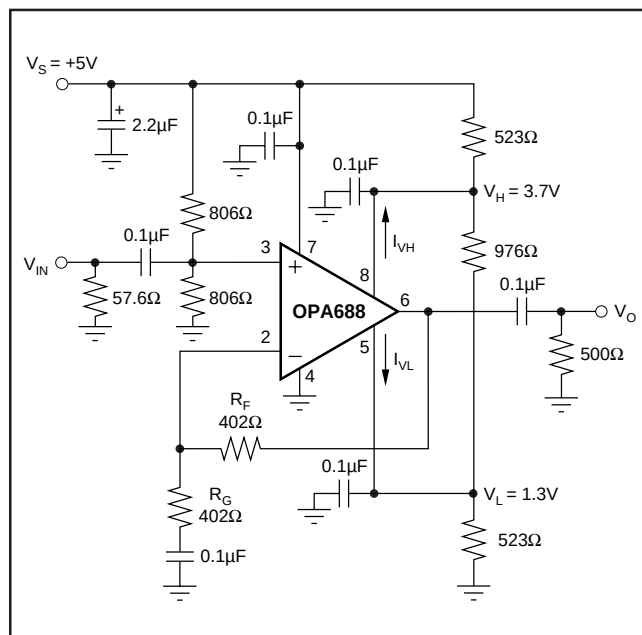

FIGURE 2. AC-Coupled, Single Supply Amplifier.
NOTES: (1) Junction Temperature = Ambient Temperature for low temperature limit and 25°C guaranteed specifications. Junction Temperature = Ambient Temperature + 23°C at high temperature limit guaranteed specifications. (2) TEST LEVELS: (A) 100% tested at 25°C. Over temperature limits by characterization and simulation. (B) Limits set by characterization and simulation. (C) Typical value for information only. (3) Current is considered positive out of node. (4) CMIR tested as < 3dB degradation from minimum CMRR at specified limits. (5) I_{VH} (V_H bias current) is negative, and I_{VL} (V_L bias current) is positive, under these conditions. See Note 3, Figures 2, and Figure 8. (6) Limiter feedthrough is the ratio of the output magnitude to the sinewave added to V_H (or V_L) when $V_{IN} = 0$. (7) V_H slew rate conditions are: $V_{IN} = V_{CM} + 0.4V$, $G = +2$, $V_L = V_{CM} - 1.2V$, V_H = step between $V_{CM} + 1.2V$ and V_{CM} . V_L slew rate conditions are similar. (8) Linearity Guardband is defined for an output sinusoid ($f = 5MHz$, $V_O = V_{CM} \pm 1V_{pp}$) centered between the limiter levels (V_H and V_L). It is the difference between the limiter level and the peak output voltage where SFDR decreases by 3dB (see Figure 9).
$G = +2$, $R_F = 402\Omega$, $R_L = 500\Omega$ tied to $V_{CM} = 2.5V$, $V_L = V_{CM} - 1.2V$, $V_H = V_{CM} + 1.2V$, (Figure 2 for AC performance only), unless otherwise noted.
Figure 2 shows an AC coupled, non-inverting gain amplifier for single supply operation. This circuit was used for AC characterization of the OPA688, with a 50Ω source, which
The OPA688 is nominally specified for operation using either $\pm 5V$ supplies or a single +5V supply. The maximum specified total supply voltage of 12V allows reasonable tolerances on the supplies. Higher supply voltages can break down internal junctions, possibly leading to catastrophic failure. Single supply operation is possible as long as common mode voltage constraints are observed. The common mode input and output voltage specifications can be interpreted as a required headroom to the supply voltage. Observing this input and output headroom requirement will allow design of non-standard or single supply operation circuits. Figure 2 shows one approach to single-supply operation.
When the limiter voltages need to be within 2.1V of the supplies ($V_L \leq -V_S + 2.1V$ or $V_H \geq +V_S - 2.1V$), consider using low impedance buffers to set V_H and V_L to minimize errors due to bias current uncertainty. This will typically be the case for single supply operation ($V_S = +5V$). Figure 2 runs 2.5mA through the resistive divider that sets V_H and V_L . This keeps errors due to I_{VH} and $I_{VL} < \pm 1\%$ of the target limit voltages.